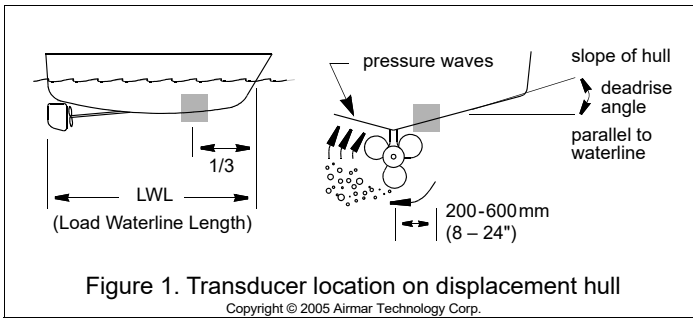

Figure 1. Transducer location on displacement hull
- **Displacement hull powerboat**—Locate about 1/3 of the way along the LWL and 200 to 600mm (8–24") off the centerline (Figure 1). The side of the hull where the propeller blades are moving downward is preferred.
1. Measure the deadrise angle of the hull at the stuffing tube using an angle finder (Figure 1).